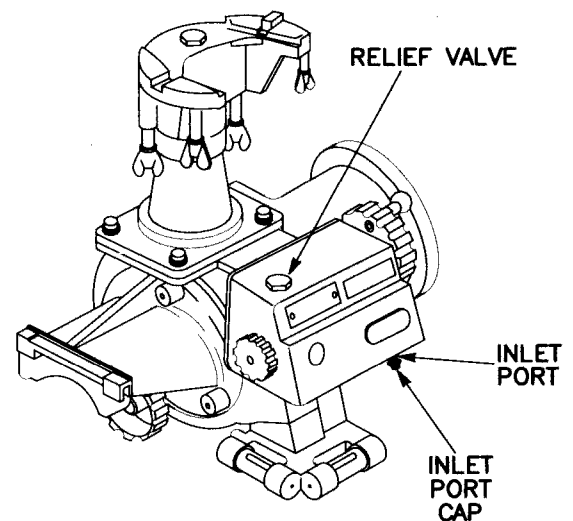

Figure 3-16 M187 Telescope Mount
- (1) Remove inlet port cap and outlet screw on M149 Telescope Mount. Do not remove poppet valve on M149E1 Telescope Mount.
- (2) Perform purging and charging procedure para 2-5.b for M149 and para 2-5.a for M149A1.
- (3) Purge M149 Telescope Mount at 5 psig and M149E1 Telescope Mount at 3 psig. Maintain pressure for 10 minutes.
- (4) Charge instrument at 1 psig for 40 seconds.
- (5) Leak test for a minimum of 5 minutes.
d. Telescope, Mount, M187 (fig. 3-16).